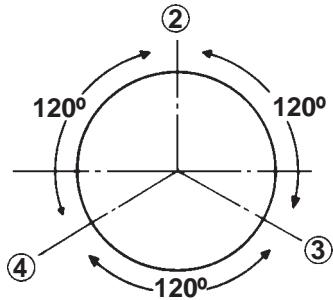

Figure 11-12. Piston Ring Gap Positioning.
2. Stagger the piston rings in the grooves until the end gaps are  $120^{\circ}$  apart. See Figure 11-12. The oil ring rails should also be staggered.